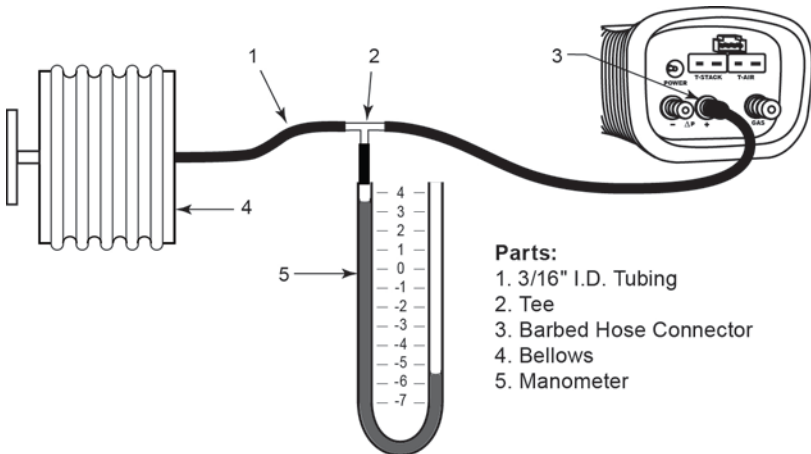

Figure 6-3. Pressure Sensor Calibration Equipment
1. Assemble the pressure sensor calibration equipment as shown in Figure 6-3, but **DO NOT** connect the analyzer to the calibration equipment at this time.